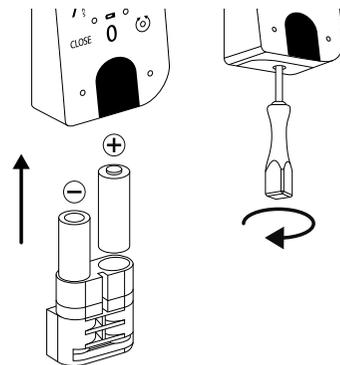

Fig. 124
- 3 Insert two new batteries. Make sure that the polarity is correct according to the drawing (Fig. 124).
Insert the battery compartment back into the housing and screw it tight (Fig. 124).